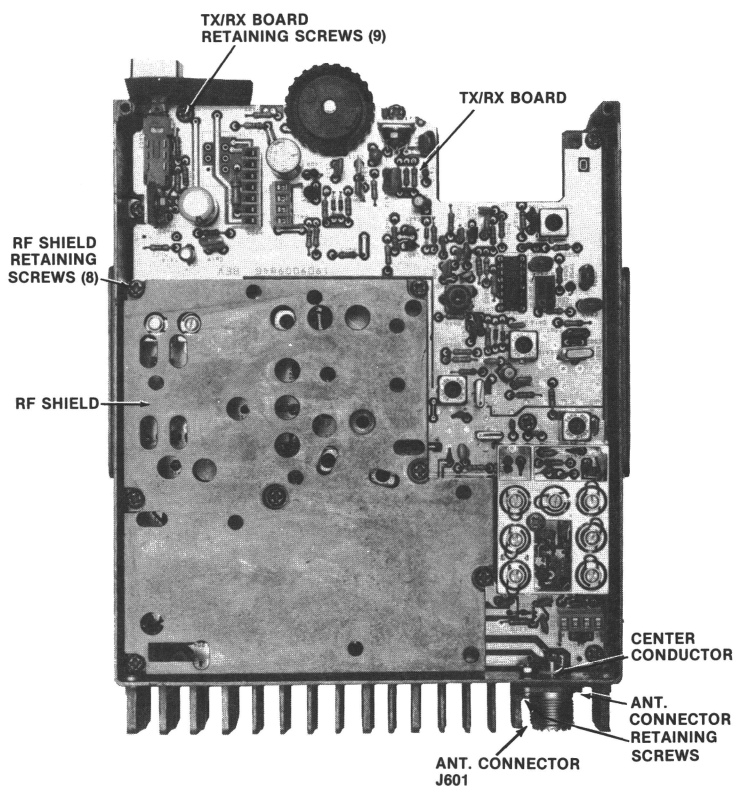

FIGURE 1 - TRANSMIT/RECEIVE BOARD REMOVAL
3. Remove the eight screws securing the RF shield. See Figure 1.